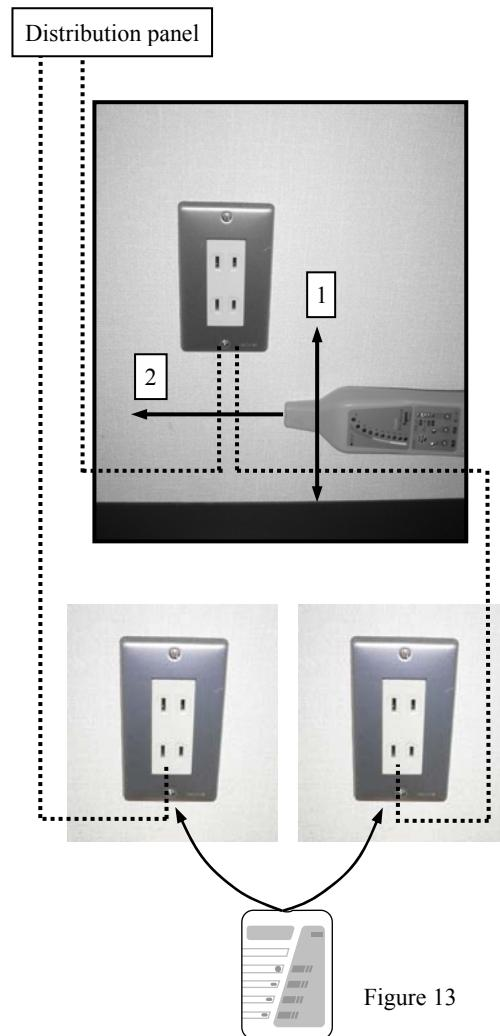

Figure 13
- (4) Figure 13 is an example of in-wall wire route detection.